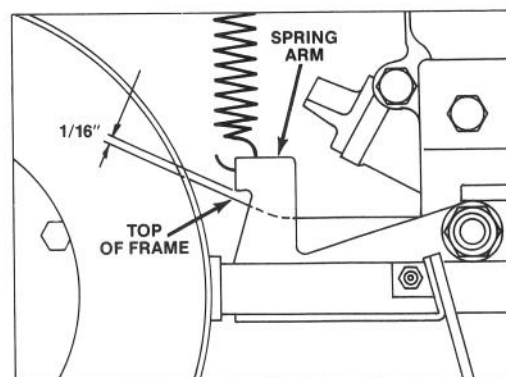

Figure 4
3. CHECK ADJUSTMENT — When blade/clutch lever is squeezed against handle, distance between top of wheel frame and bottom of spring arm must be $1/16$ " (Fig. 4). If adjustment is correct, go to step 4. If adjustment is required, remove ball joint from pivot lever and go to step 3A or 3B.